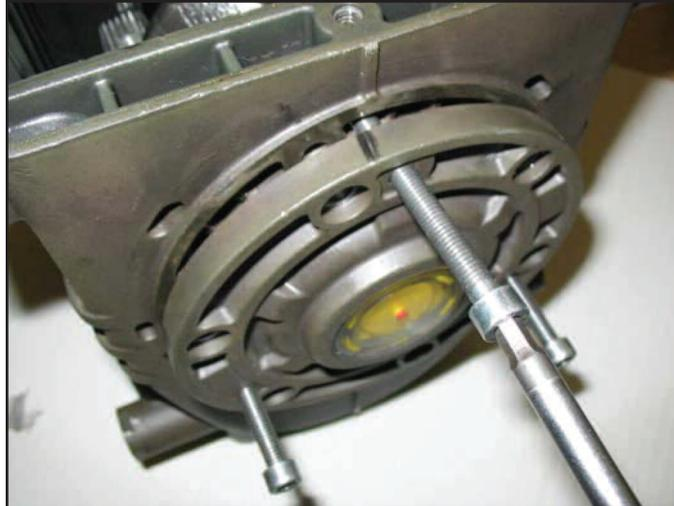

fig. 2
- side covers, using 3 wholly threaded M6 x 50 screws, inserting them in the holes as shown in fig. 2.